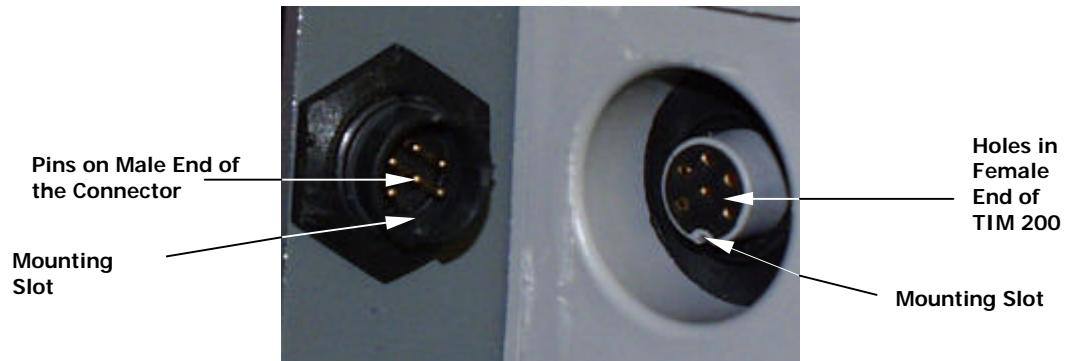

Figure 4.2-1 – Pins, Holes, and Mounting Slot of Connector
1.	Line up the pins and mounting slot on the male end of the connector (installed on the bracket) with the holes and mounting slot on the female end (installed on the TIM). Place the TIM on top of the bracket and gently apply pressure. Make sure a tight connection is made. See Figure 4.2-1.